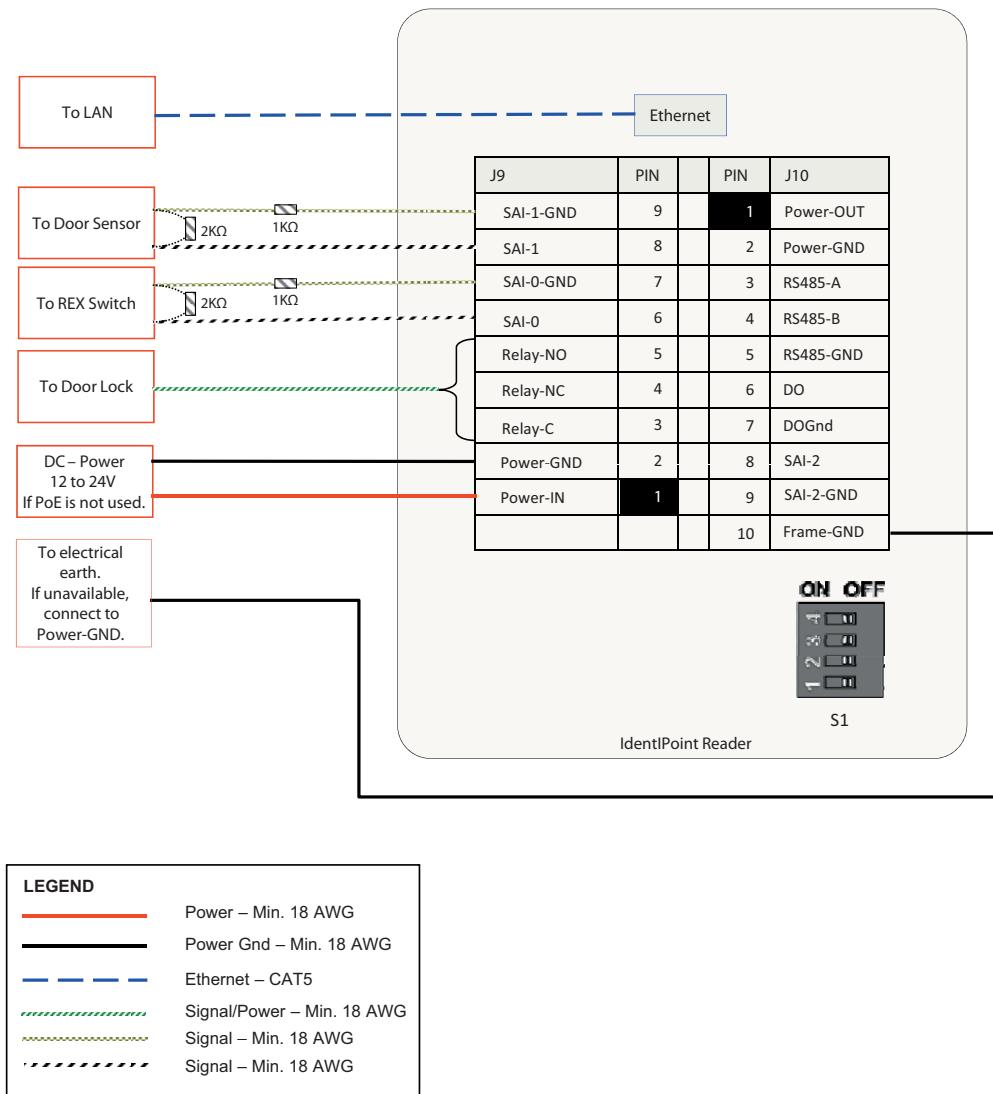

Fig. 21. Connections for single reader with REX and without IOM
1. Run the field wiring to the readers as per the job drawings. Figures 21 through 24 show typical wiring schemes for IdentPoint devices. Wires of a minimum gauge of 18 AWG are recommended for all wiring with the upper limits specified for some applications. See Table.2 for details on wire sizes and maximum permissible distances. 18 AWG wires (0.3 sq. mm) must be limited to 1A loading. When used for carrying communication data as in RS485, the wires must be a twisted pair.